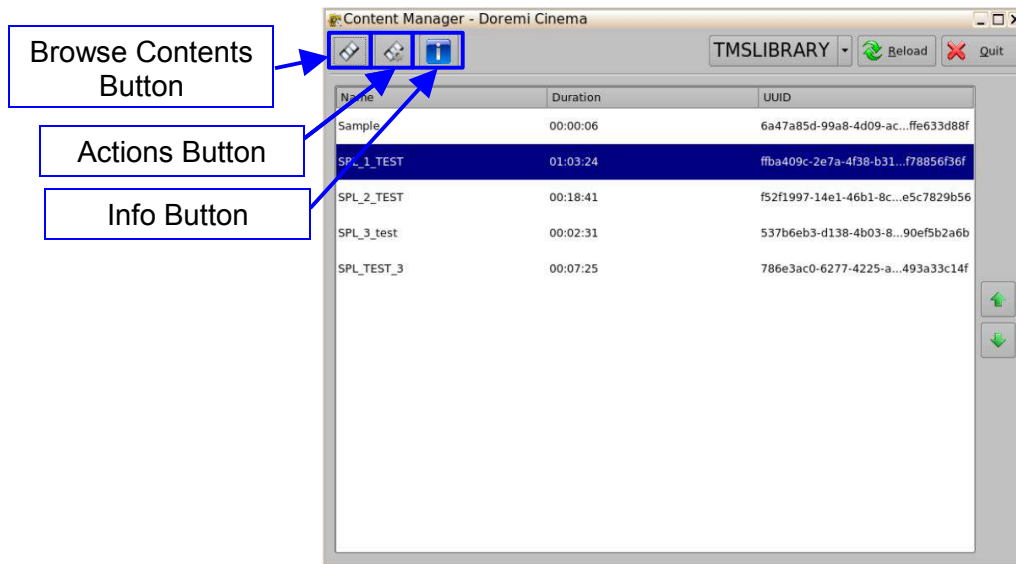

Figure 114: Content Manager – SPL
- **Browse Contents Button:** Allows the user to go back to the home page or switch through CPL's, KDMS's, SPL's, and License windows (Figure 114).
- **Actions Button:** Provides the user with the option of exporting the selected SPL. The user will also be able to delete a selected item (Figure 114).
- **Information Button:** Provides the user with the ability to obtain more information concerning the selected item including the properties and Related Schedules (Figure 114).
- **Actions Button:** Allows the user the ability to delete a selected item (Figure 114).
- Click on the Actions button. See Figure Figure 112 (CPL window) or Figure 114 (SPL window).